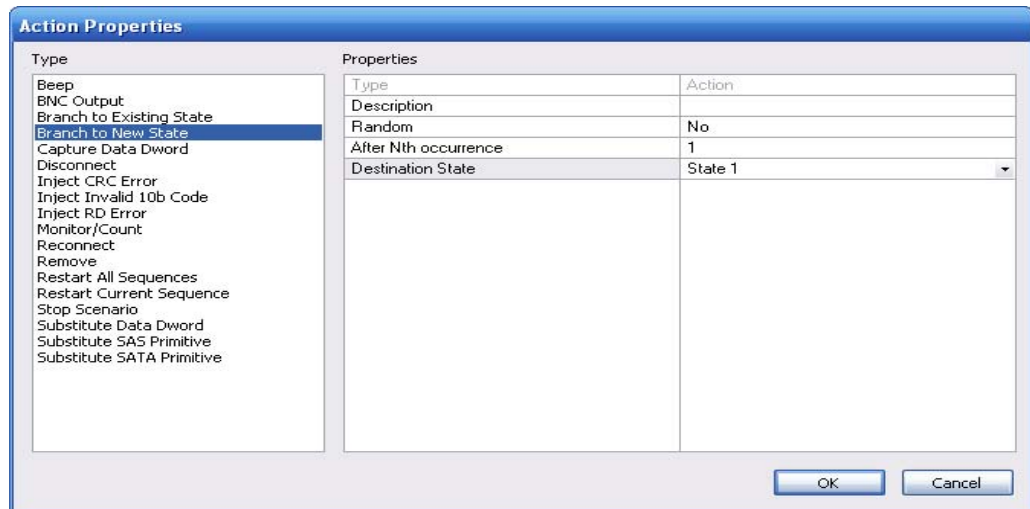

Figure 78 Example 7: Action Properties Dialog Box
- Step 8** The Action Properties dialog box appears (Figure 78). For the action, select **Branch to a New State**.